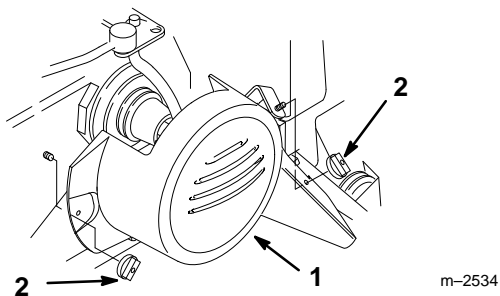

Figure 30
1. Remove the two wing nuts and belt cover from the tractor (Fig. 30).